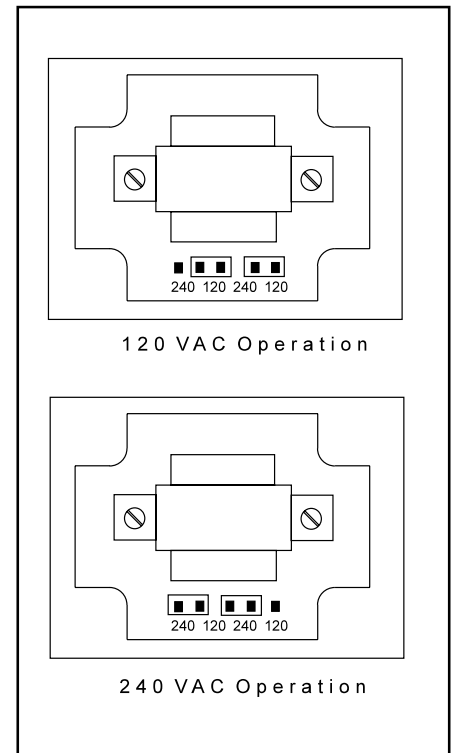

Figure 2: 120/240 VAC Selection
1. Configure the AC jumpers for either 120 or 240 VAC operation. See Figure 2.